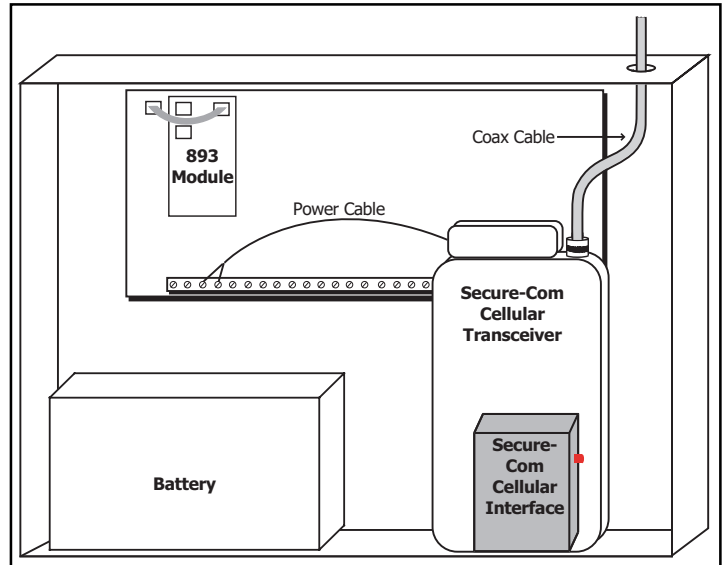

Figure 1: Secure-Com™ Installation
Using the supplied Velcro tape, secure the Cellular Interface Module to the Secure-Com Cellular Transceiver as shown in Figure 1. Be sure to leave the LED on the Cellular Interface Module visible to verify the unit is operating properly.
4. Install both units into the panel enclosure. See Figure 1.